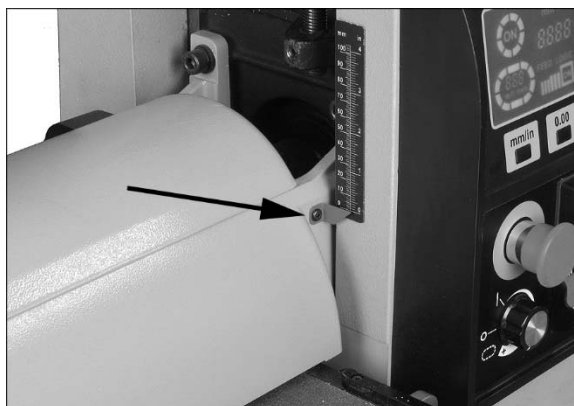

Figure 9
2. At this drum position, the depth scale pointer should align with zero mark on scale. If it does not, loosen screw (Figure 9) and raise or lower pointer to align with zero on scale.